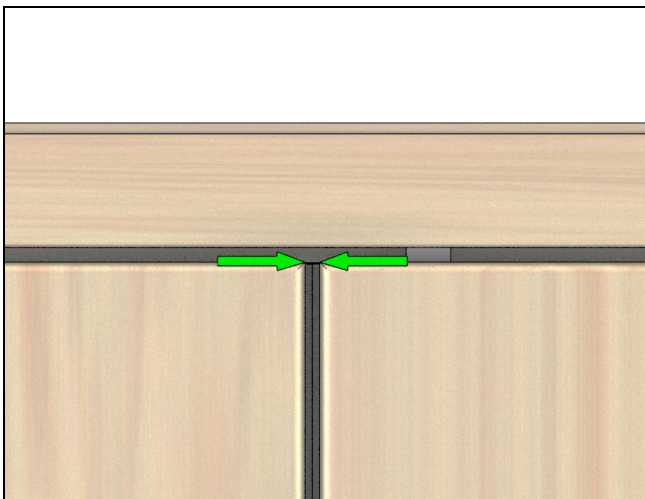

Figure 20
2. Close the panel(s) and check the margin between the active and inactive panel or panel and jambs. The door is designed to have a 1/8" (3) gap between the wood stiles. See Figure 20.
1. On all side jamb strike plates, remove and replace the screws fastening the strike to the frame with the longer screws and drive into the rough opening frame as shown in Figure 20 and Figure 21. Screws will stay intact on the head jamb strike plate and two #10 installation screws as shown in Figure 21. Fasten a #10 x 3" installation screw through the stationary panel retainer.